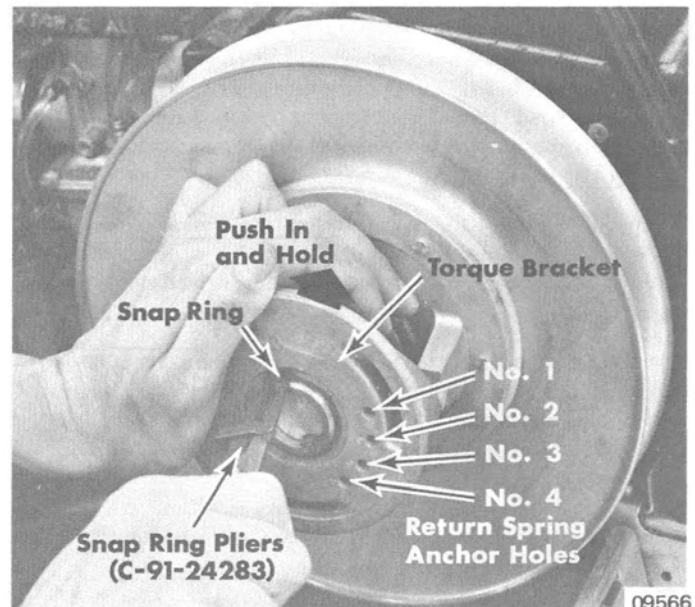

Figure 5. Removing Driven Sheave Torque Bracket
5. While one person applies snowmobile brake and rotates movable sheave so that torque bracket may be pressed in toward sheave, another person (wearing safety glasses) must push torque bracket in approximately  $\frac{1}{4}$ " (6.4mm), then remove driven sheave snap ring from spindle. (Figure 5)
**NOTE:** When removing torque bracket, note into which torque bracket anchor hole (1, 2, 3 or 4 in Figure 5) the tab of return spring was installed.
5. While one person applies snowmobile brake and rotates movable sheave so that torque bracket may be pressed in toward sheave, another person (wearing safety glasses) must push torque bracket in approximately ¼" (6.4mm), then remove driven sheave snap ring from spindle. (Figure 5)
*NOTE:* When removing torque bracket, note into which torque bracket anchor hole (1, 2, 3 or 4 in Figure 5) the tab of return spring was installed.